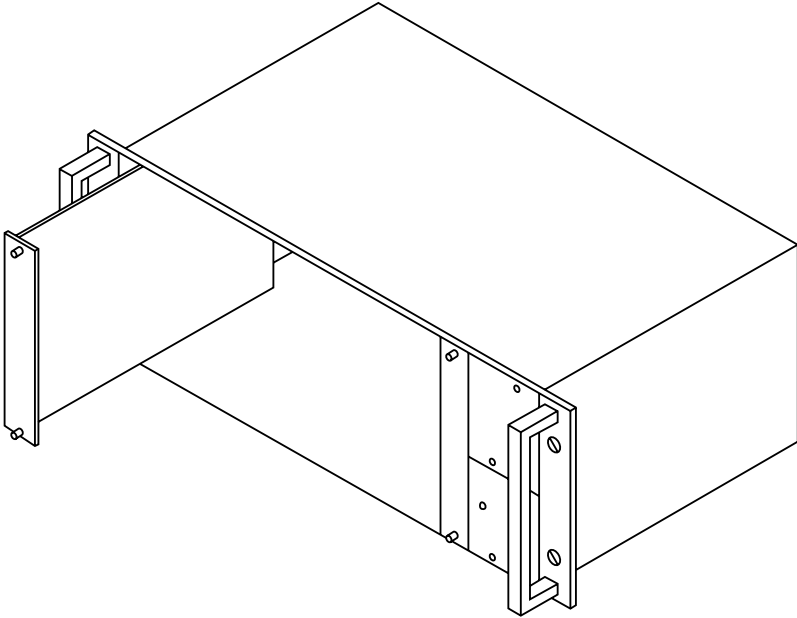
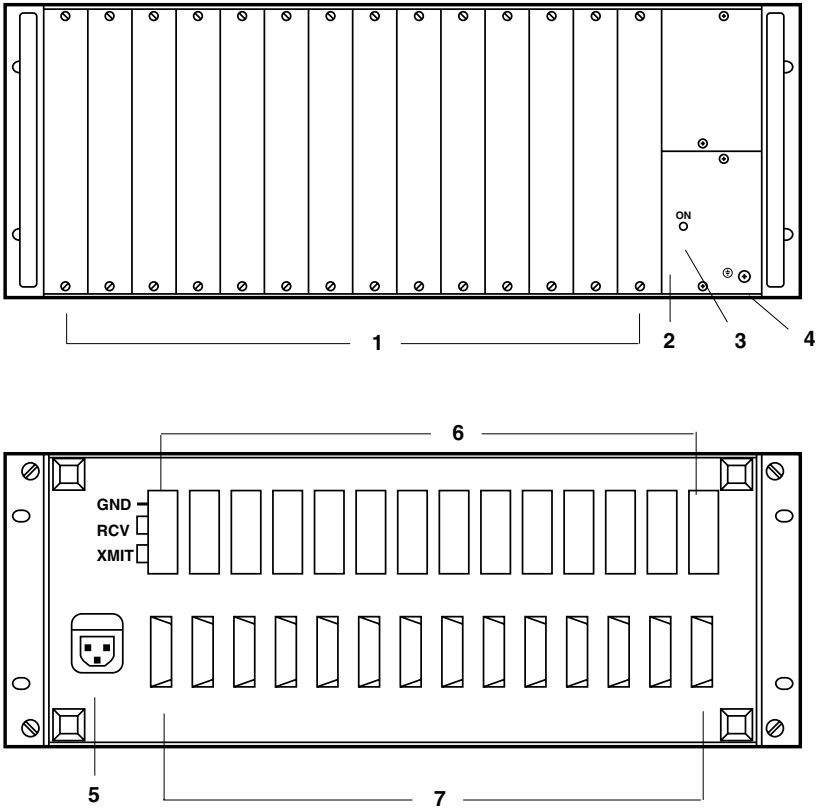

Figure 4-3. Installing a card in the RackNest 2/14.
Figure 4.4. The RackNest 2/14 illustrated.
You will be installing the line driver card in the RackNest 2/14 as shown in Figure 4-3. The front and rear panels of the RackNest are shown in Figure 4-4; the numbered connectors, controls, and indicators are described in Table 4-1.
1. Insert the card into an empty slot on the RackNest (see Figure 4-3). Do not use excessive force. If the card does not go in easily, remove the card, realign it with the RackNest's enclosure guides, and push it into place.